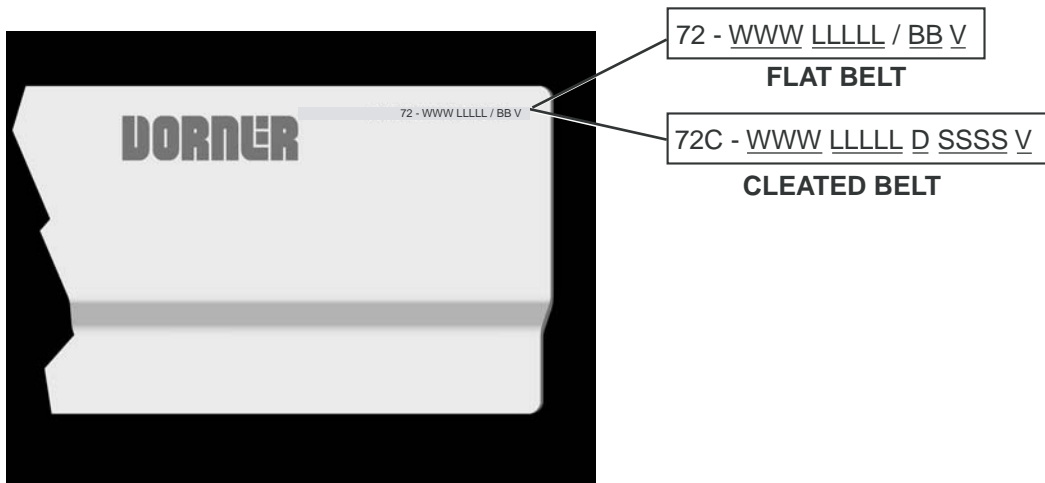

Figure 87
Refer to model number on the conveyor frame (Figure 87). From the model number determine the conveyor width (WWW), length (LLLLL) and belt type (BB). Use data to configure belt part number as indicated below. *Add “V” for v-guided belts or add “VG” for 06, 08, 57, 59, and 64 v-guided belt types.
Refer to model number on the conveyor frame (Figure 87). From the model number determine the conveyor width (WWW), length (LLLLL), cleat type (B) and cleat spacing (SSSS). Use data to configure belt part number as indicated below. *Add “V” for v-guided belts.